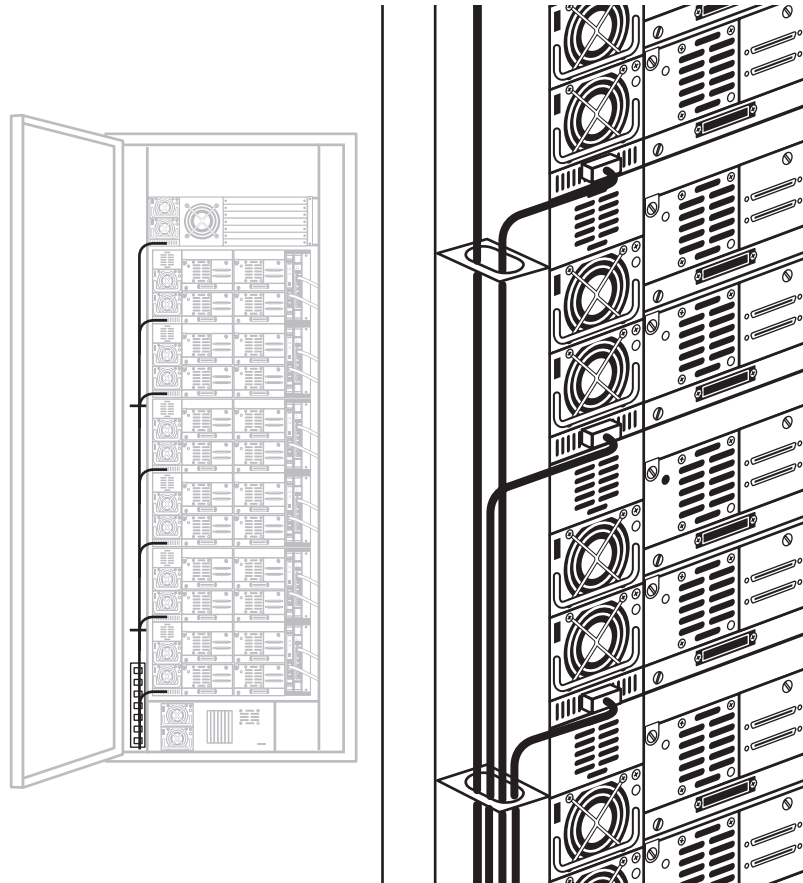

Figure 28: Connecting the cluster power cable
1. Connect a power cable on the front of the AC Failover box located on the lower left side of the library to the drive cluster power connector below the power supplies. Route the cable through the cable access hole (see Figure 28).